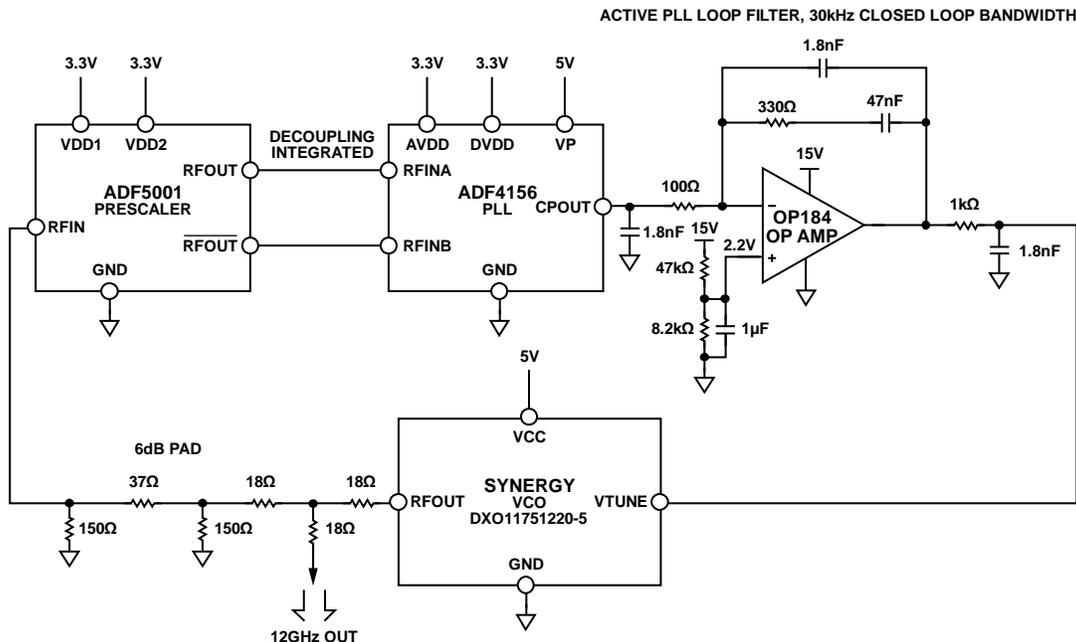

Figure 1. Low Noise Microwave Fractional-N PLL (Simplified Schematic: All Connections and Decoupling Not Shown)
A block diagram of the circuit is shown in Figure 1. A 12 GHz VCO from Synergy Microwave Corporation, the DXO11751220-5, was chosen for this circuit, although any VCO operating from 4 GHz to 18 GHz would also work, provided the loop filter is redesigned appropriately. As with the majority of microwave VCOs, the Synergy VCO has a wide input tuning range of 0.5 V to 15 V, which requires an active PLL loop filter to interface between the lower voltage ADF4156 charge pump (maximum output of 5.5 V) and the VCO input. The OP184 was chosen as the op amp for the active loop filter because of its excellent noise performance, as well as its input
It is recommended to set the bias voltage level to approximately half the charge pump supply (VP), as this meets both the input voltage range requirements with plenty of margin and gives best charge pump spur performance. Measurements for this circuit note were taken with VP = 5 V and op amp common-mode bias = 2.2 V. To help minimize any reference noise feed-through, a large decoupling capacitor of 1 μ F was placed close to the noninverting op amp input pin as shown in Figure 1. This capacitor with the 47 k Ω resistor forms an RC filter with a cut-off below 10 Hz.